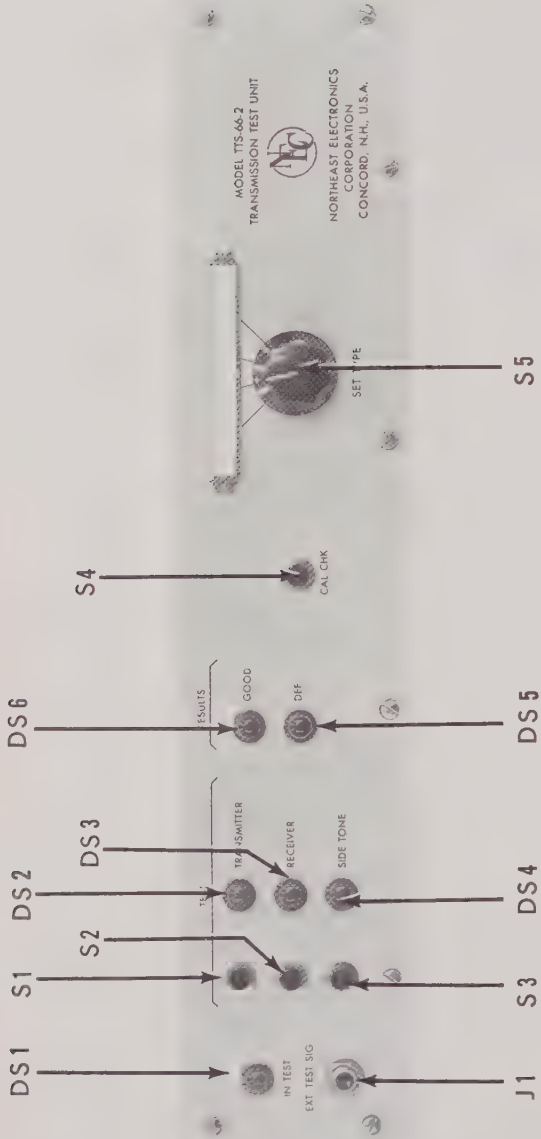

Figure 2-1 Front Panel Controls
2.1 FRONT PANEL CONTROLS. The table below locates and describes the front panel controls for the TTS 66-2 unit. (Refer to Fig. 2-1).